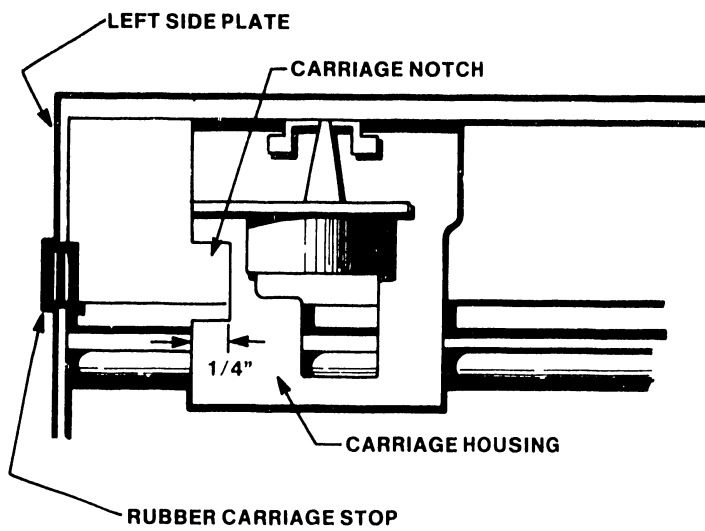

Figure 5-3A Carriage Notch
**NOTE:** For printers with a notch on the carriage housing verify that the notch is  $1/4''$  and not  $1/8''$  as shown in Figure 5-3A. If the notch measures  $1/8''$  perform the following steps.
- c. Using a metal file increase the notch to  $1/4''$  as shown in Figure 5-3A.